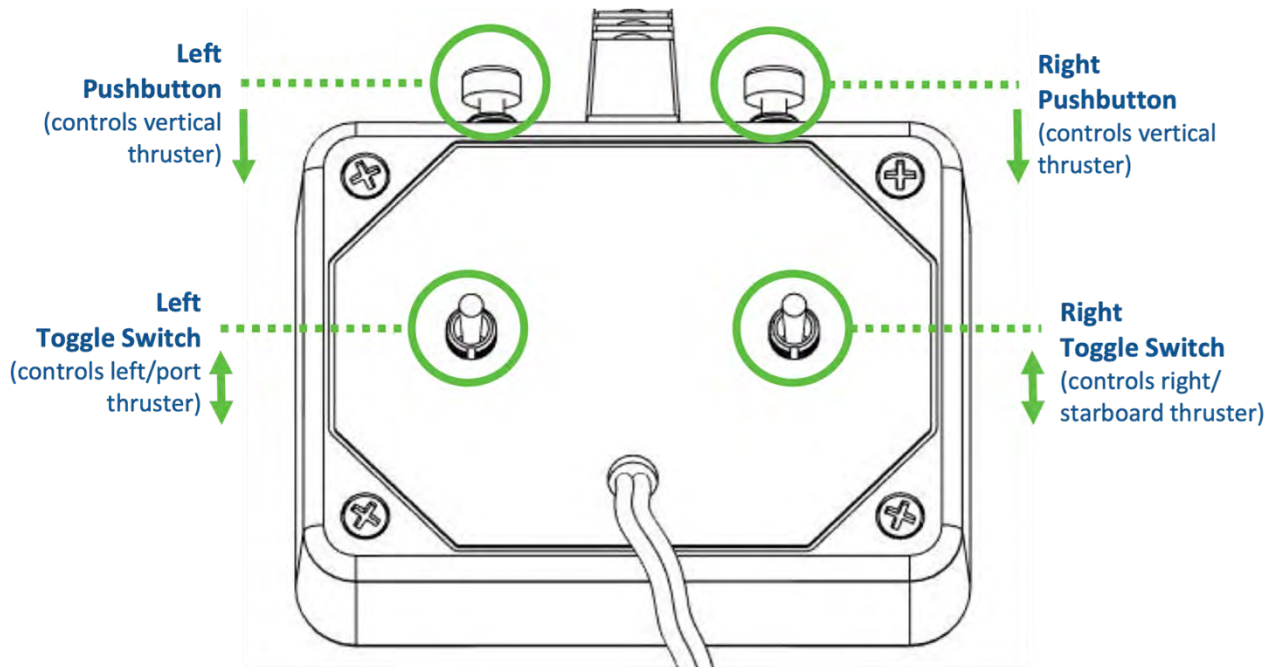

Figure 18
**Controller Operation:** The SeaPerch controller contains two toggle switches and two pushbutton switches. (Figure 18)